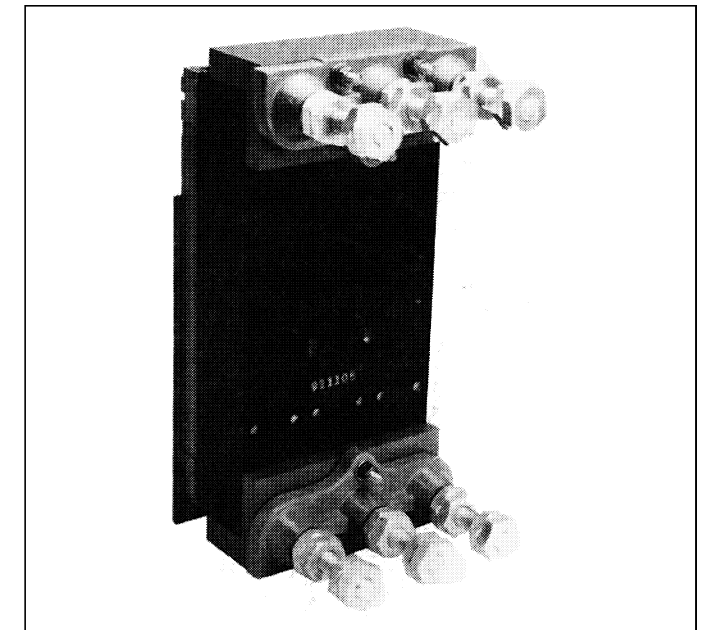

Fig. 1-6. Navy Type AQB-L400 Circuit Breaker and Adapter Kit Combination Plugged Into Male Mounting Blocks
- h. Since the Eaton Adapter Kit applied to an AQB-L400/LL400 breaker is a direct replacement for an already installed AQB-LF400 breaker, modifications to the existing bus mounting system are not required. An already adapted AQB-L400/LL400 breaker can be mounted on existing blocks, and secured in place with the provided upper and lower adapter block bolts (Figure 1-6).